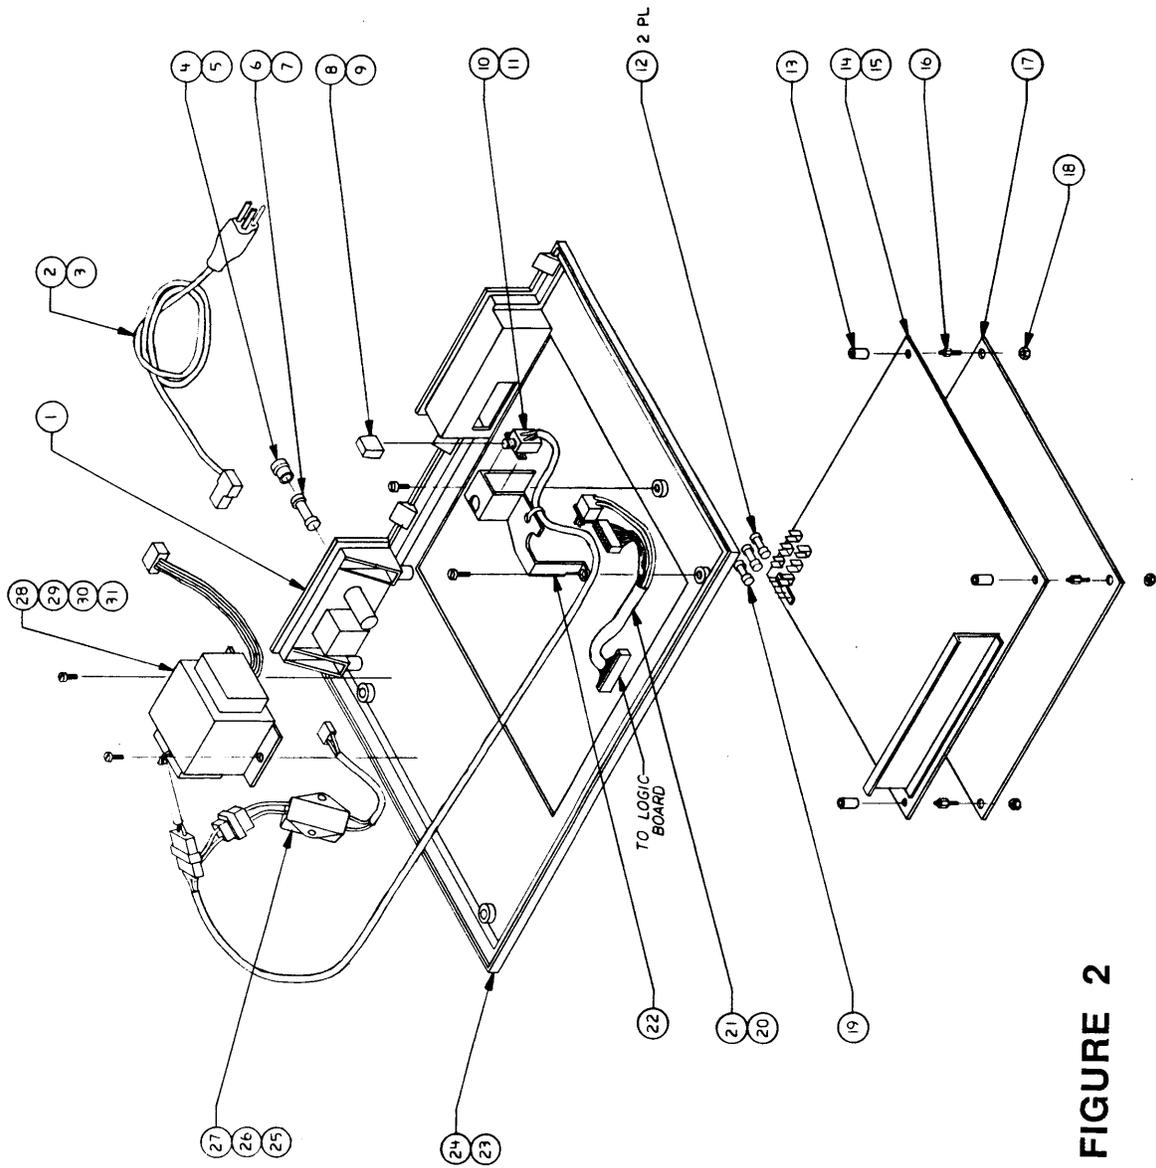

FIGURE 2
- 4.3 Bottom Cover (Figure 2)
IMAGEWRITER - BOTTOM COVER (Figure 2)